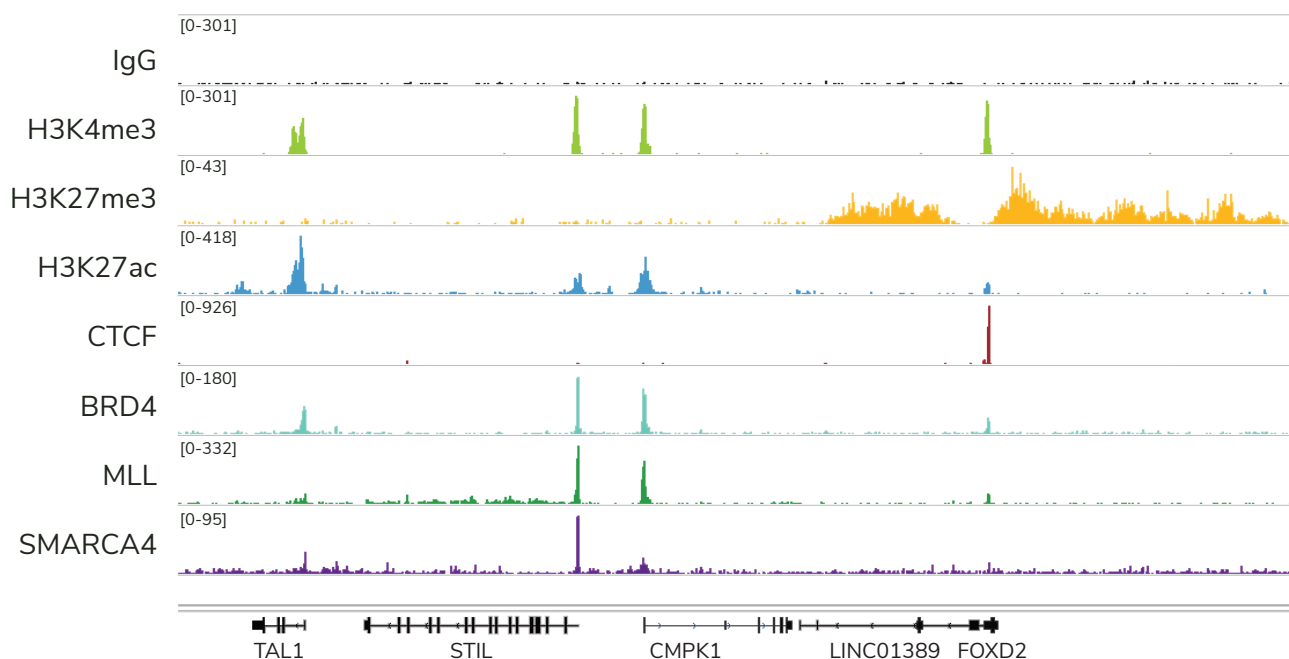

FIGURE 2
- **Low sequencing depths.** Only 3-8 million unique sequencing reads per reaction are needed to generate high-resolution chromatin profiles (Figure 2).